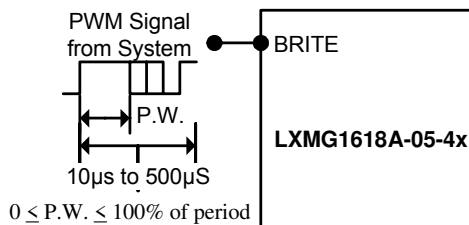

Figure 1A – PWM Brightness Control
- The brightness control may be a voltage output DAC or other voltage source, a digital pot or 500k manual pot. The inverter contains an internal 338k pull-up to typically 3V to bias the pot. A PWM logic level signal (figure 1A) may be used up to 5V; however the inverter will reach maximum current at less than 100% duty cycle. This can be calculated as approximately 2V divided by the logic high voltage level; with 3.3V logic level this corresponds to about 60% duty cycle for maximum lamp current.